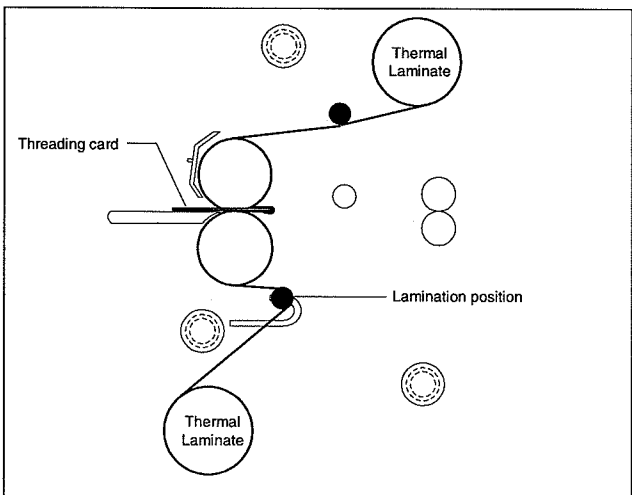

Fig. 27
8. Pivot the table back to it's feeding position while ensuring the threading card is on top of the feed table (Figure 27).